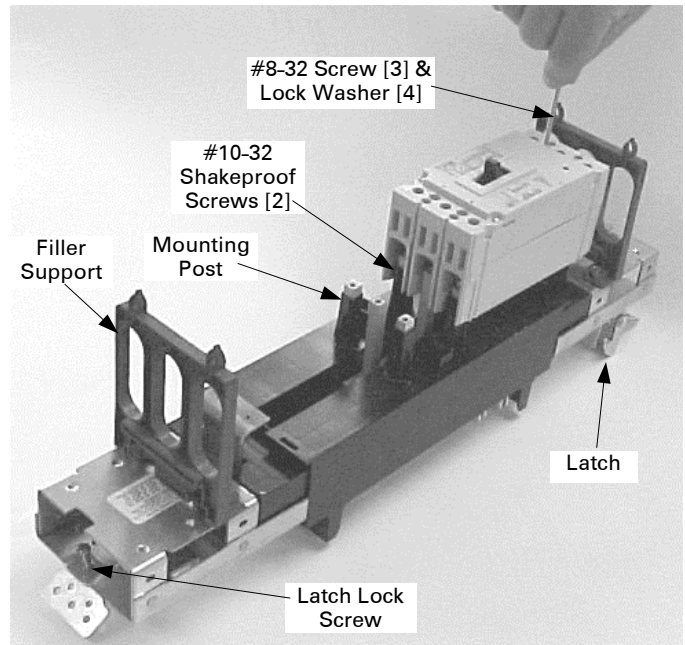

Figure 4. Installing the breaker on the module.
- 3. Install the circuit breaker.** Place the ON side of the breaker over the mounting posts, as shown in Figure 4. Fasten the breaker to the module with #10-32 shakeproof screws [2] on the mounting posts and #8-32 x 3" screws [3] and lock washers [4] through the breaker load ends. After all screws are in place, tighten the #10-32 screws to 27–32 in-lb and the #8-32 screws to 15–20 in-lb.